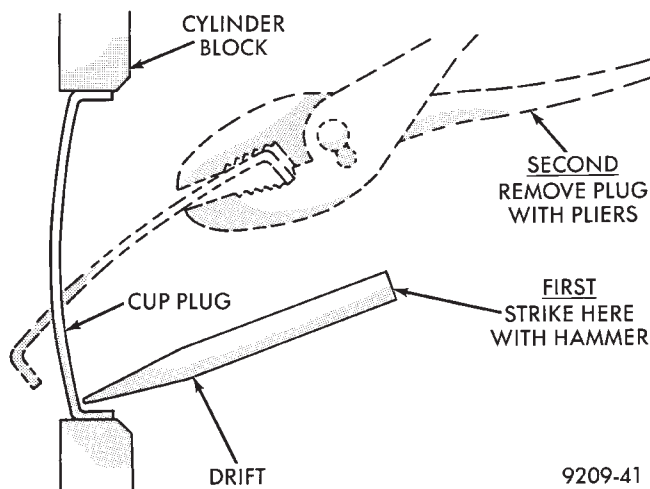

Fig. 48 Core Hole Plug Removal
- (1) Using a blunt tool such as a drift or a screwdriver and a hammer, strike the bottom edge of the cup plug (Fig. 48).
- (2) With the cup plug rotated, grasp firmly with pliers or other suitable tool and remove plug (Fig. 48).